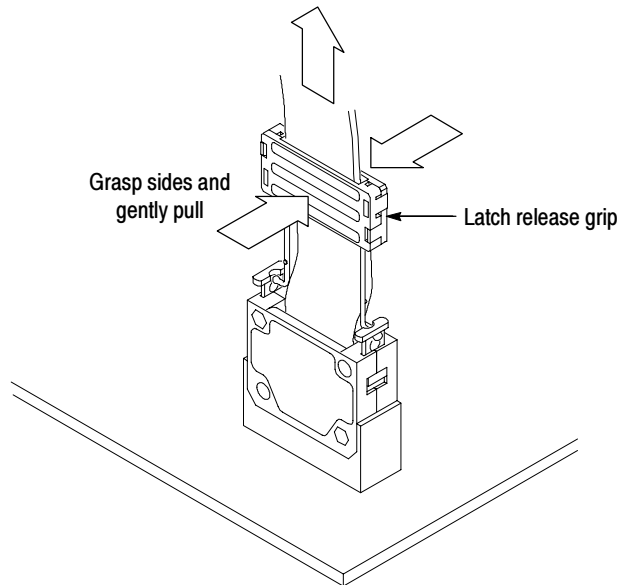

Figure 13: Releasing the probe tip from the latch housing
1. Gently pull the latch release grip to release the probe tip from the latch housing as shown in Figure 13.